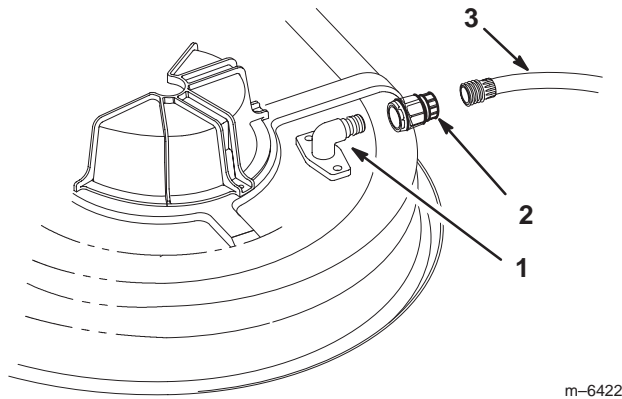

Figure 48
3. Attach the hose coupling to the end of the mower washout fitting, and turn the water on high (Fig. 48).